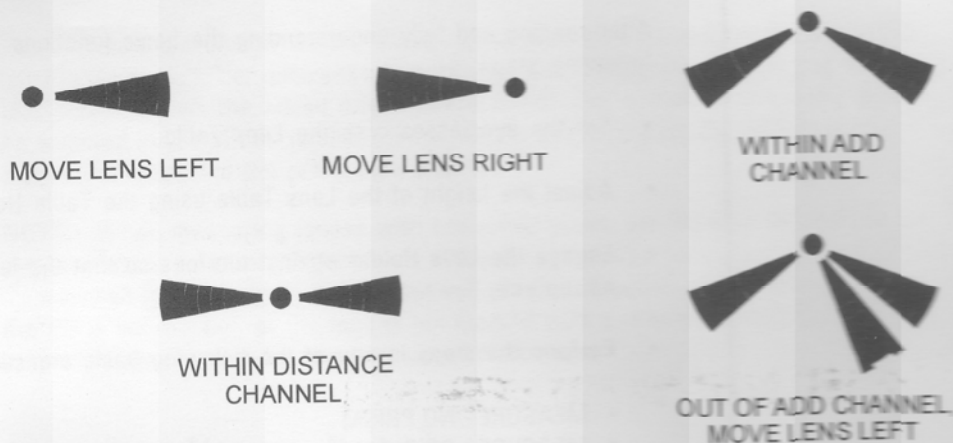

Figure 6 - Progressive Lens Alignment Arrows
Figure 6 is an illustration of the alignment arrows for only the progressive lenses.
- D. Align the lens in front of the Nosepiece about $\frac{1}{4}$ the distance from the top of the lens. Move the lens left or right to align the optical center of the lens (as shown by the alignment arrows) until the within distance channel pattern is shown (refer to Figure 6 for an illustration of the alignment arrows for the progressive lens). Maintaining the optical center, move the lens down until the sphere value increases by .25 diopters (becomes more positive); move it back up until it decreases by .25 diopters. This is the DISTANCE measurement.
- E. Press the second (from the top) control button (blue) until the ADD function is shown in the lower right of the LCD screen. While remaining within add channel (refer to Figure 6 for an illustration of the alignment arrows for the progressive lens), move the lens upward; the lens ADD power should either: